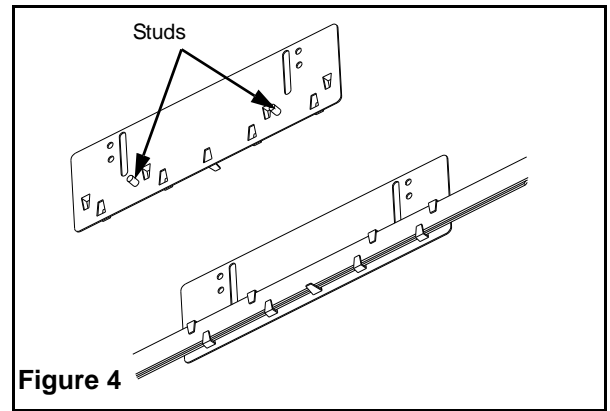

Figure 4
- c. Slide the hanger bars through the tabs in the adjustment brackets (see fig. 4) and place the assembly between the framing members. Align the back box as required and fasten bars to the framing members.